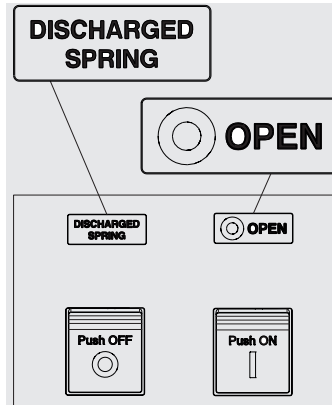

Figure 48
1. Circuit-breaker open with springs discharged (see Figure 48).